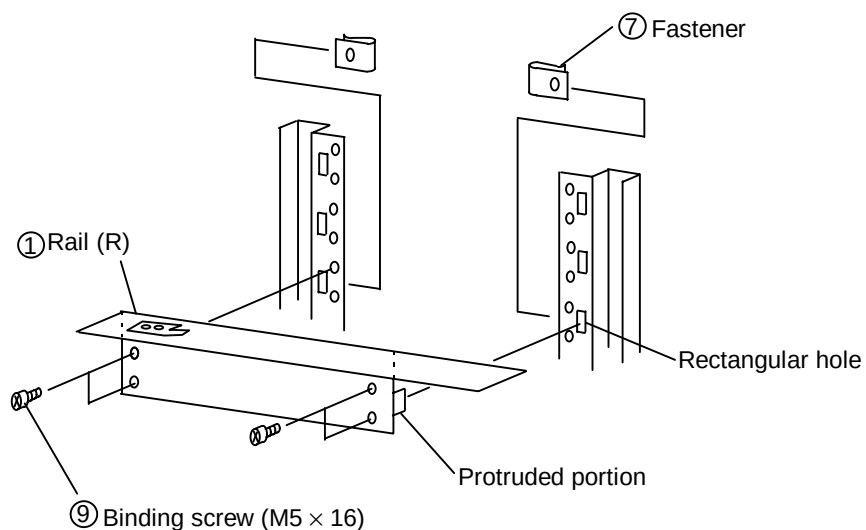

Figure 1.4.3 Securing the Rail to the Rack Frame
- (2) Insert the protruded portions of the ① Rail (R) into the rectangular holes on both the front and rear sides of the rack frame at right hand side of the desired installing position. (See Figure 1.4.3.)
- (3) Install the fasteners aligning their holes with the holes of the rail and the rack frame (at two places each on the front and rear sides). (See Figure 1.4.3.)
- (4) Secure the ① Rail (R) using the ⑨ Binding screws (M5 × 16) (at two places each on the front and rear sides).
- (5) Temporarily attach the ④ Stopper (L) to the ② Rail (L), and secure the ② Rail (L) to the rack frame in the same way.